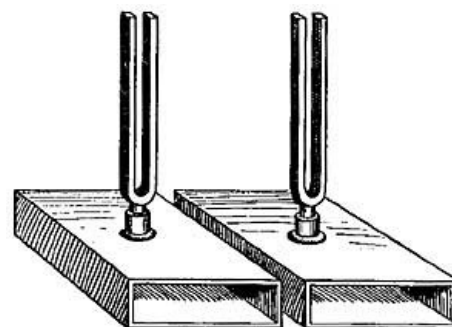

FIG. 174.—When the first fork vibrates, the second responds.
**257. How One Sounding Body produces Sound in Another Body.** In Section 255 we saw that any object when disturbed vibrates in a manner peculiar to itself,—its natural period,—a long-rope hammock vibrating slowly and a short-rope hammock vibrating rapidly. From observation we learn that it requires but little force to cause a body to vibrate in its natural period. If a sounding body is near a body which has the same period as itself, the pulses of air produced by the sounding body will, although very small, set the second body into motion and cause it to make a faint sound. When a piano is being played, we are often startled to find that a window pane or an ornament responds to some note of the piano. If two tuning forks of exactly identical periods (that is, of the same frequency) are placed on a table as in Figure 174, and one is struck so as to give forth a clear sound, the second fork will likewise vibrate, even though the two forks may be separated by several feet of air. We can readily see that the second fork is in motion, although it has not been struck, because it will set in motion a pith ball suspended beside it; at first the pith ball does not move, then it moves slightly, and finally bounces rapidly back and forth. If the periods of the two forks are not identical, but differ in the slightest degree, the second fork will not respond to the first fork, no matter how long or how loud the sound of the first fork. If we suppose that the fork vibrates 256 times each second, then 256 gentle pulses of air are produced each second, and these, traveling outward through the air, reach the silent fork and tend to set it in motion. A single pulse of air could not move the solid, heavy prongs, but the accumulated action of 256 vibrations per second soon makes itself felt, and the second fork begins to vibrate, at first gently, then gradually stronger, and finally an audible tone is given forth.